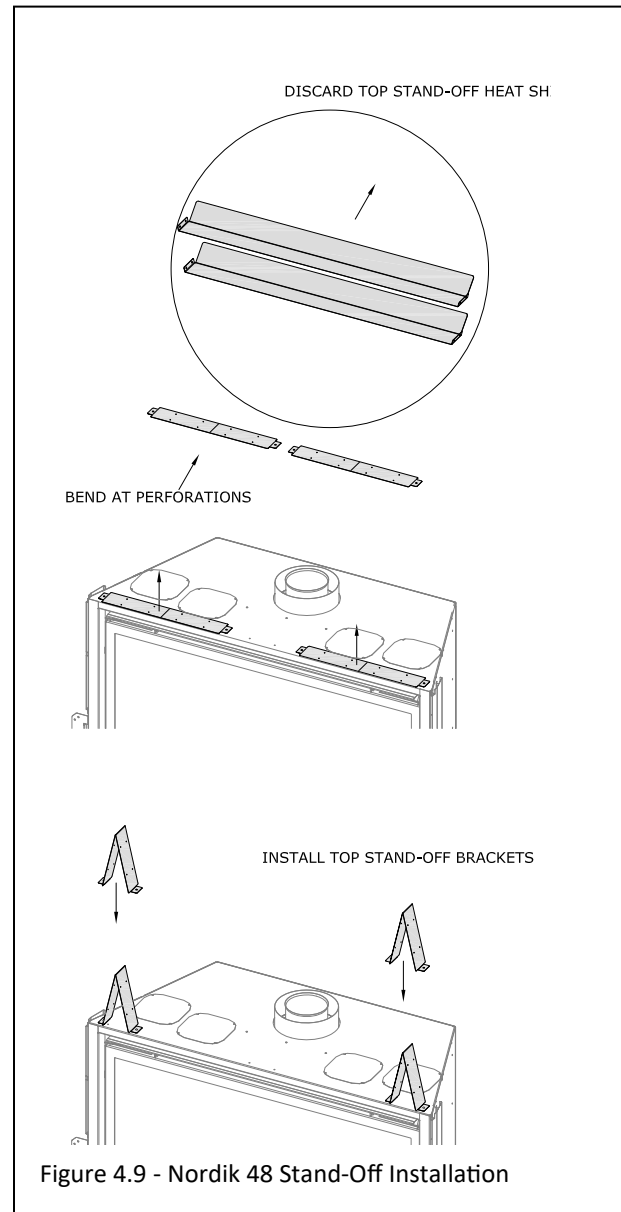

Figure 4.9 - Nordik 48 Stand-Off Installation
7. Install stand-off assembly on top of the appliance. See Figure 4.9. Remove and save (4) screws securing stand-off heat shields and stand-off brackets on top of the fireplace. Form each top stand-off bracket by bending at perforations, as shown. Align the holes in the formed top stand-offs with the holes in the fireplace top. Secure with the (4) screws previously removed along with (4) screws located on top of the fireplace.
8. Discard the (2) horizontal heat shields.